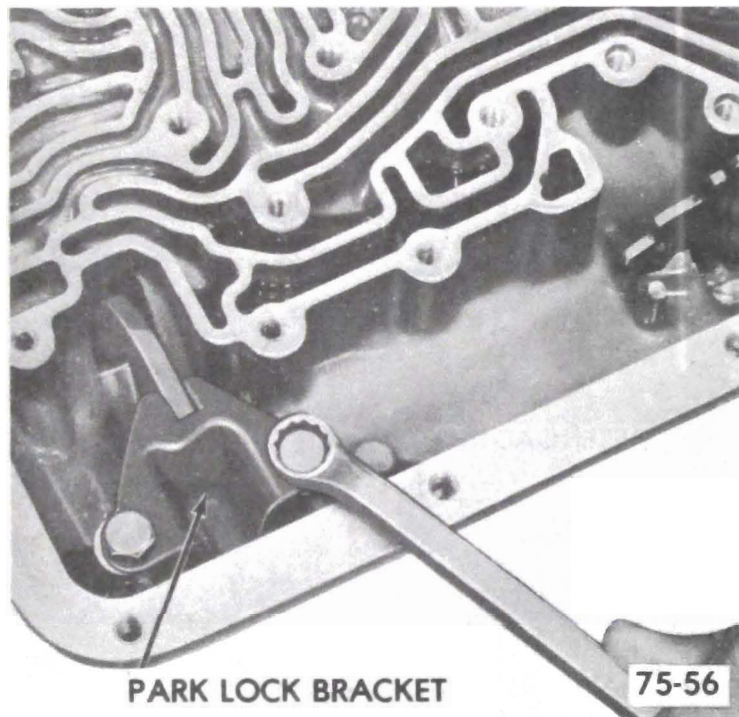

Figure 75-260
4. Install park lock bracket, torque bolts to 29 lb.ft. See Figure 75-260.